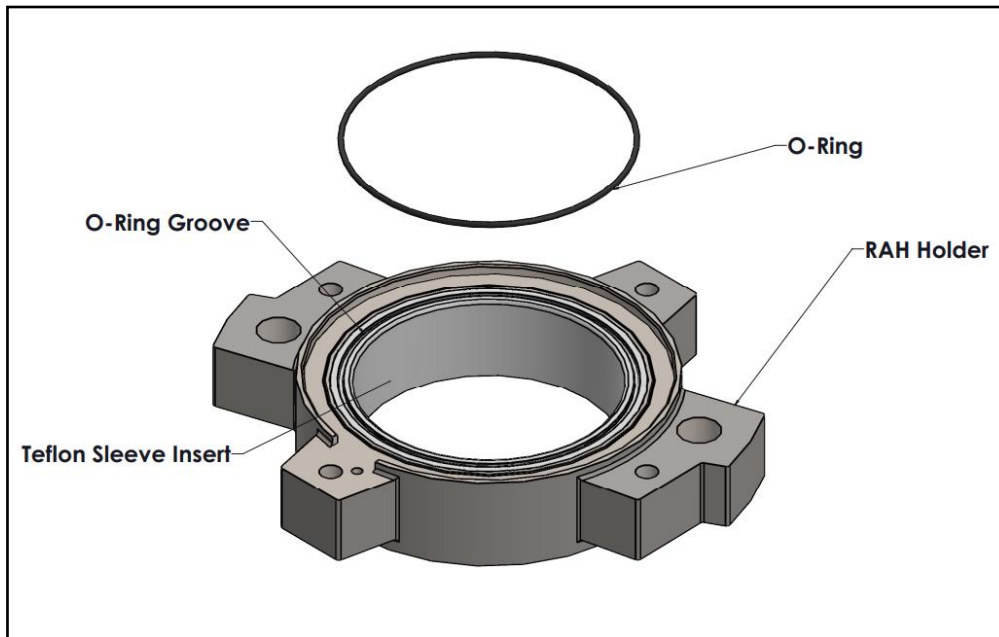

Figure 3. RAH Holder with Teflon Sleeve Insert
(1) New Installation
- v. Figure 3 displays a teflon sleeved holder. Teflon sintered holders are similar except they do not have a sleeve.